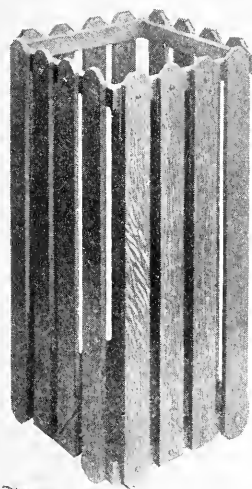

Fig. 211.
In the furniture designs shown in Figs. 211 to 214, you will notice that there is a similarity in parts. This duplication of parts will simplify marking out the work, if you make up the several pieces of furniture, because having one part in each shape, you can mark around them in laying out like pieces.
The Waste-Basket shown in Fig. 211, and their dimensions, are indicated in the material bill (Fig. 215), patterns for the pieces are given in Figs. 216 and 218. The frame
- FIG. 215. — Material Required for Waste-Basket Shown in FIG. 211